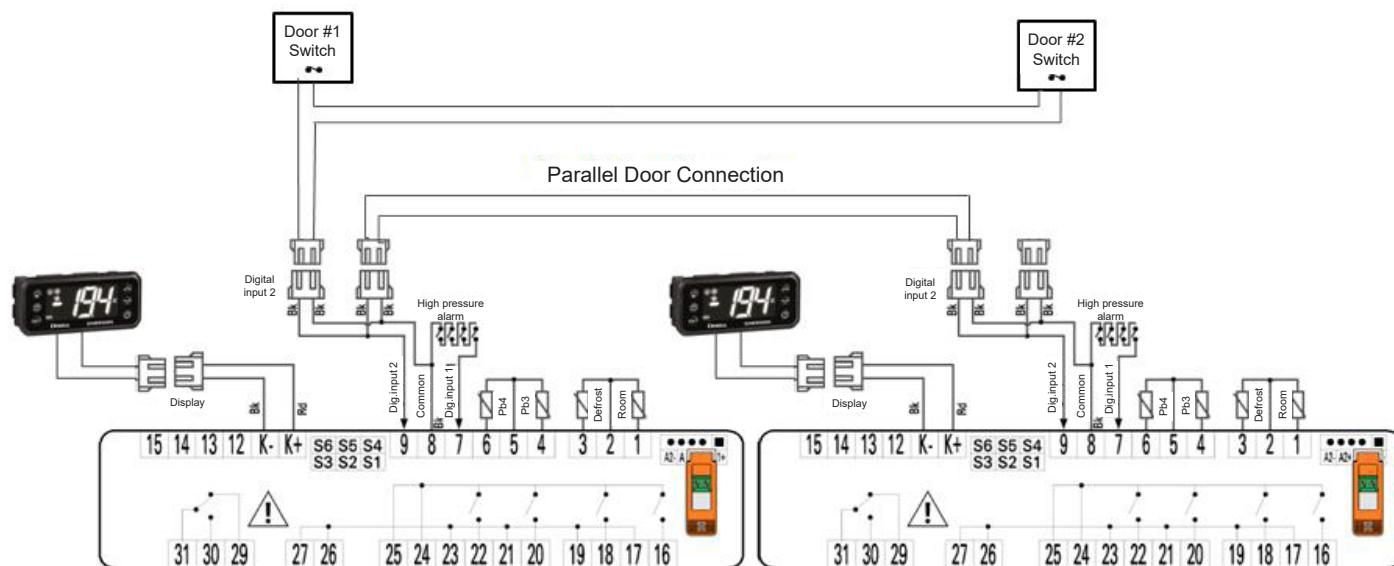

Figure 19 - Door Switch Series Connection
The door switch can be connected in the digital input 2. Two parallel JST XMR-02V receptacles are available for convenience (see Figure =18). Use a dry contact (I/O) from the door switch as a signal in the first unit and then interconnect the other units by the parallel receptacle using a proper wiring cable (supplied with the Monoblock). If two or more doors are available, connect the doors in series. See door switch alarm connections below (Figure 19). If no door switch is used, the digital input (2) must be changed from “dor” to “nu” by parameter “i2F”.